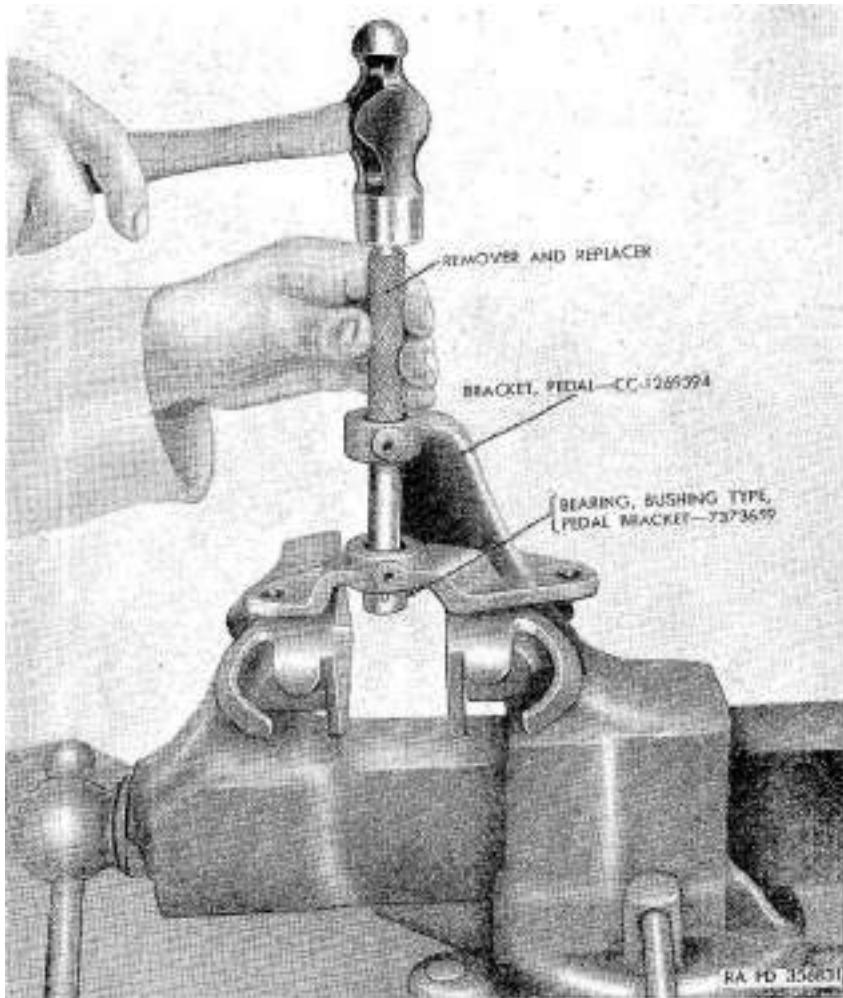

Figure 157. Removing pedal bracket bushing-type bearing from pedal bracket with a bushing remover and replacer.
- (1) Remove $45^\circ \frac{1}{4}-28NF$ lubricating fittings (C and D) from pedal bracket assembly.
- (2) If inspection (par. 177) reveals that replacement of pedal bracket bushing-type bearings (E and G) is necessary, place pedal bracket assembly over open jaws of a vise and drive bearings from bracket assembly with a bushing remover and replacer (fig. 157).